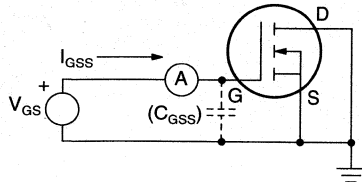

Figure 4: N-Channel I_{GSS} Measurement
- B. I_{GSS} – The gate to body leakage current. It is measured with drain and source at ground, and gate biased to specified voltage. NOTE: Due to input capacitance, large die size MOSFETs may prove difficult to measure with automatic test equipment, unless a preconditioning test is performed to charge the gate capacitance prior to test. (See Figure 4 for the measurement circuit.)